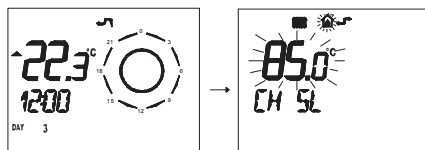

Fig. 7.39
- Press button  for more than 3 seconds to enter in **INFO** mode (Fig. 7.39).